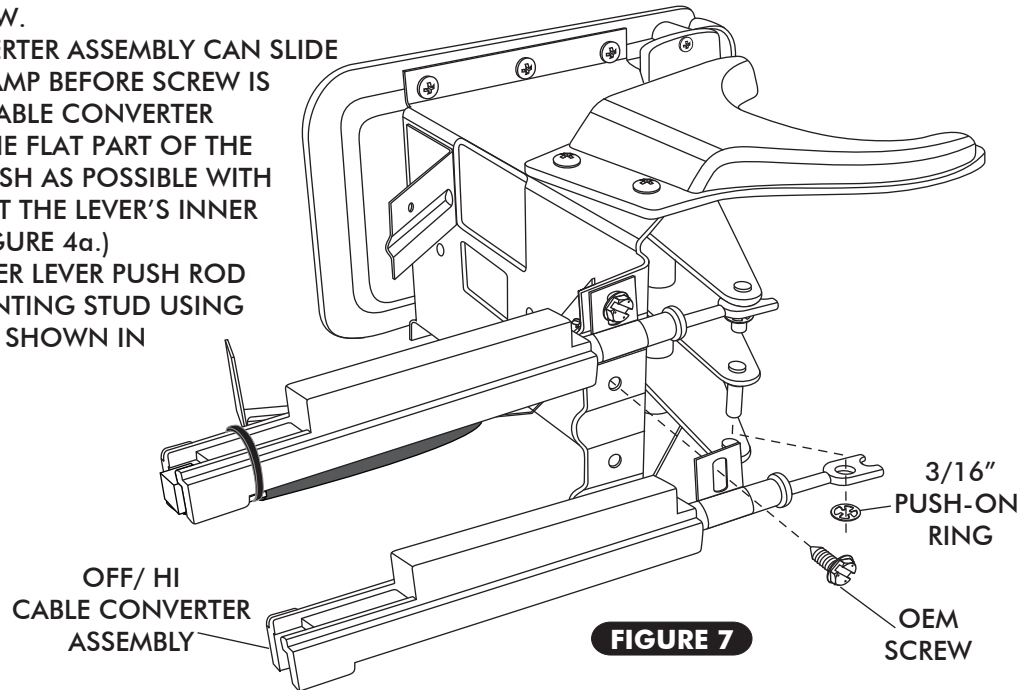

FIGURE 7
- INSTALL CABLE CONVERTER ASSEMBLY ON THE OFF/ HI LEVER. (SEE FIGURE 7 BELOW.)
- SECURE CABLE CONVERTER LEVER PUSH ROD ONTO OEM CABLE MOUNTING STUD USING 3/16" PUSH-ON RING AS SHOWN IN FIGURE 7 BELOW.